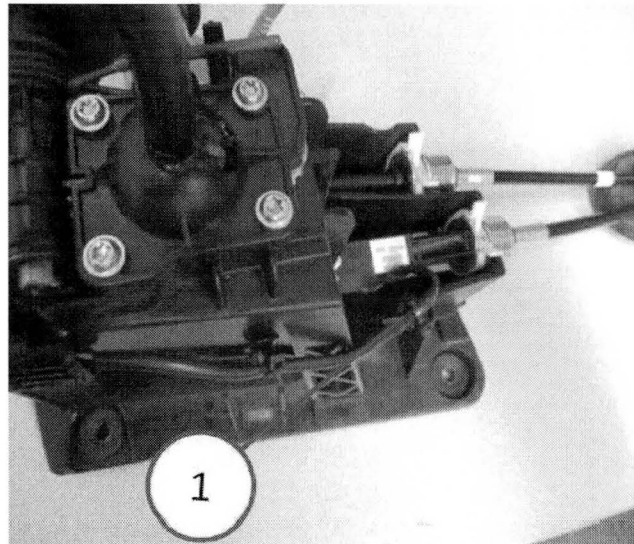

Fig. 7 Shift Module
12. Locate the neutral position sensor wire (Fig. 7).
13. Ensure that the edge biter clip is fully seated (Fig. 7).
14. If it is found out of position, rotate the biter clip and push it onto the edge of the shifter until it bottoms out (Fig. 7).